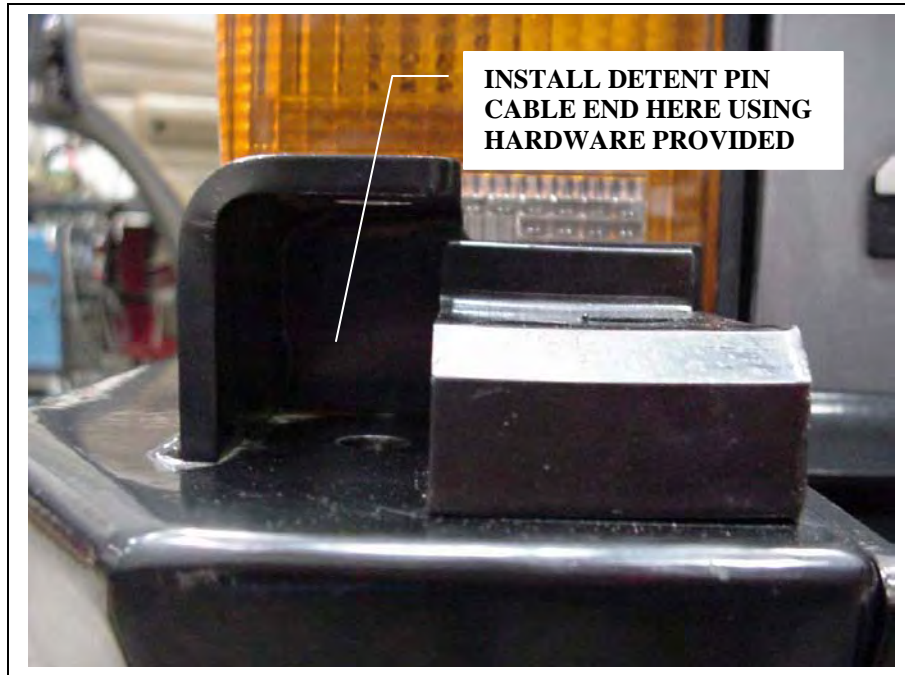

Figure 12, Detent Pin
14. Install the detent pin cable to the driver's side end cap using the hardware provided. There is a small hole in the back of the stop to mount the end of the cable on the pin. Torque the #10 bolt and nut to 3-5 ft/lbs. Close the tire carrier and install the detent pin into the bumper. **See Figure 12.**